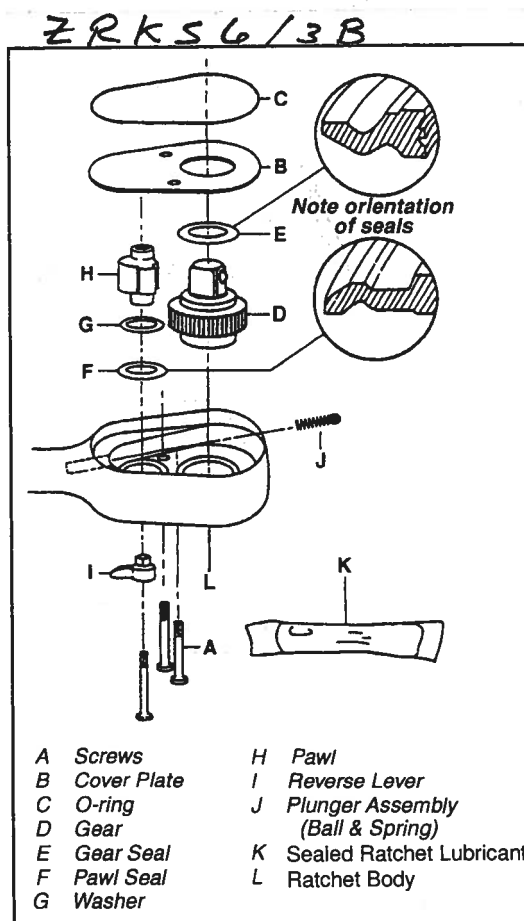

Figure 1: Sealed Ratchet Assembly and Parts List
To disassemble the Sealed Ratchet, complete the following steps. Refer to *Figure 1* for the parts list.
To assemble the Sealed Ratchet, complete the following steps. Refer to *Figure 1* for the parts list.
- Insert pawl seal (F) into lower hole of ratchet body (L), oriented as shown in Figure 1.
- Place washer (G) over pawl seal (F).
- Insert plunger assembly (J) or ball and spring into hole located in lower part of ratchet body (L) with plunger or ball end located outside of hole.
- Use pawl (H), with square facing down, to press the plunger assembly or ball and spring (J) into hole.
- Inset pawl (H) hub into the hole in the ratchet body (L).
- Maintain hold on pawl (H) and insert gear (D) into ratchet body (L). This helps hold the pawl (H) in place.
- Place the O-ring (C) around the cover plate (B) edge by stretching it just enough to enable positioning.
- Insert the gear seal (E) into the cover plate (B), oriented as shown in Figure 1.
- Align and level cover plate (B) over gear assembly. Apply firm pressure on all sides of the cover plate (B), until the cover plate contacts its locating shoulder.